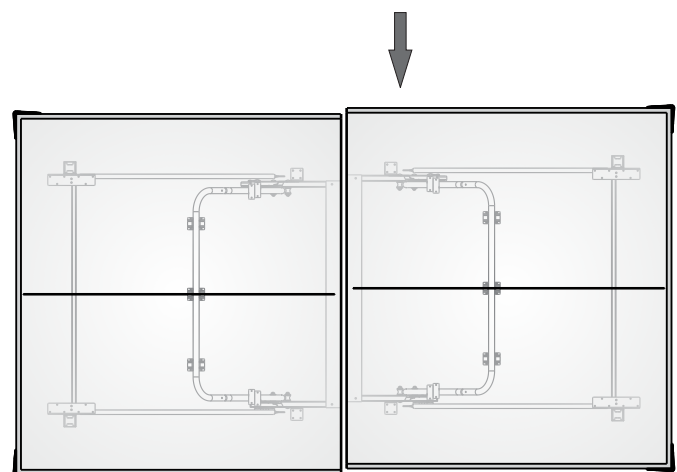

Figure 20
IF TABLE IS NOT ALIGNING CORRECTLY: (see Figure 20)
3. With the help of two other adults, push the two table top halves so they are in line with each other and re-tighten the Wing Nuts (#32) as shown in Figure 20.